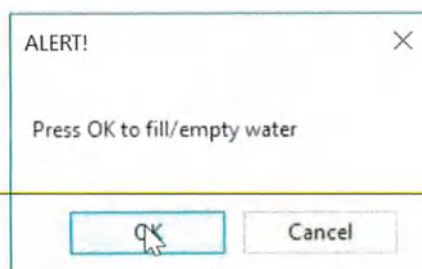
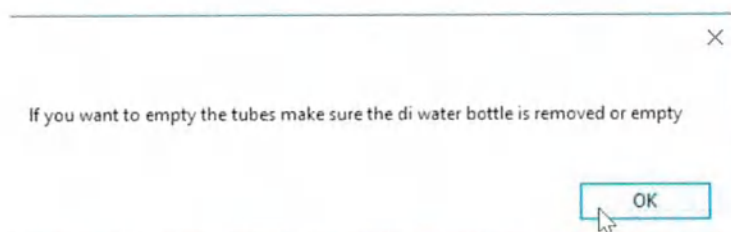

Figure 59
Figure 60
9.5.7.3 If you click the Calibration button in the Service form, a warning message appears [Figure 59].
9.5.7.4 If you click the "OK" button on [Figure 59], the following message appears [Figure 60].
9.5.7.5 If you press the "OK" button in [Figure 60], the syringe pump will start and begin to suck in distilled water.